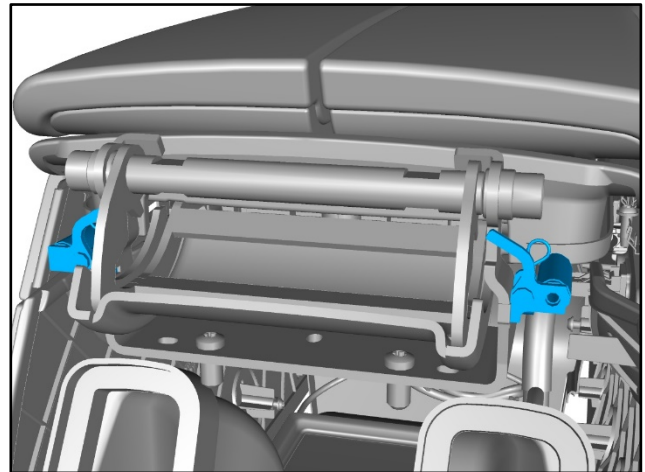
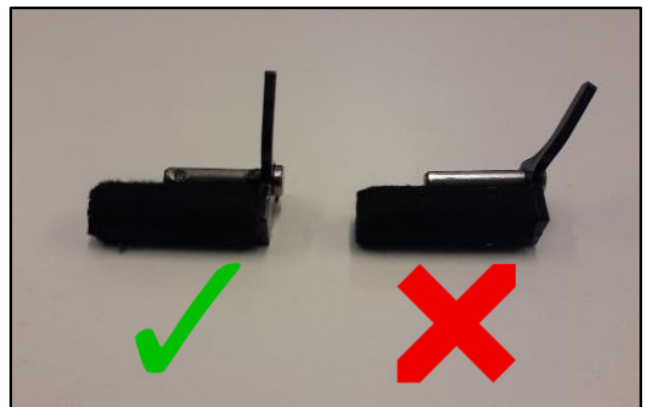

Figure 5
Figure 6
4. Examine the left side and right side hinge lock mechanisms. Make sure that they are straight as illustrated (refer to Figure 5 and Figure 6).